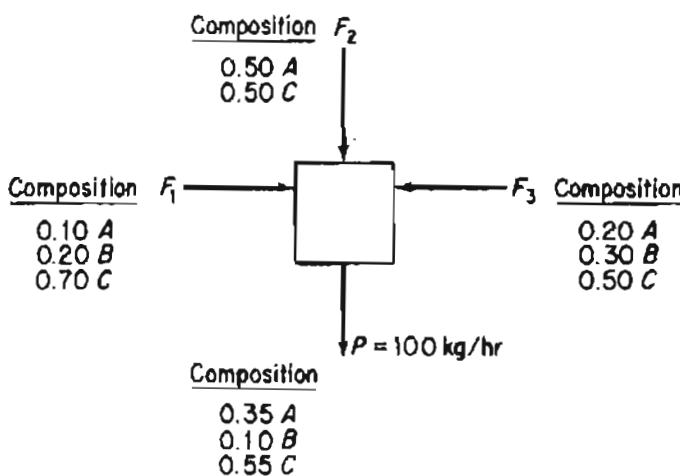

Figure P7.1
- *7.1 For the process shown in Figure P7.1, how many material balance equations can be written? Write them. How many independent material balance equations are there in the set?